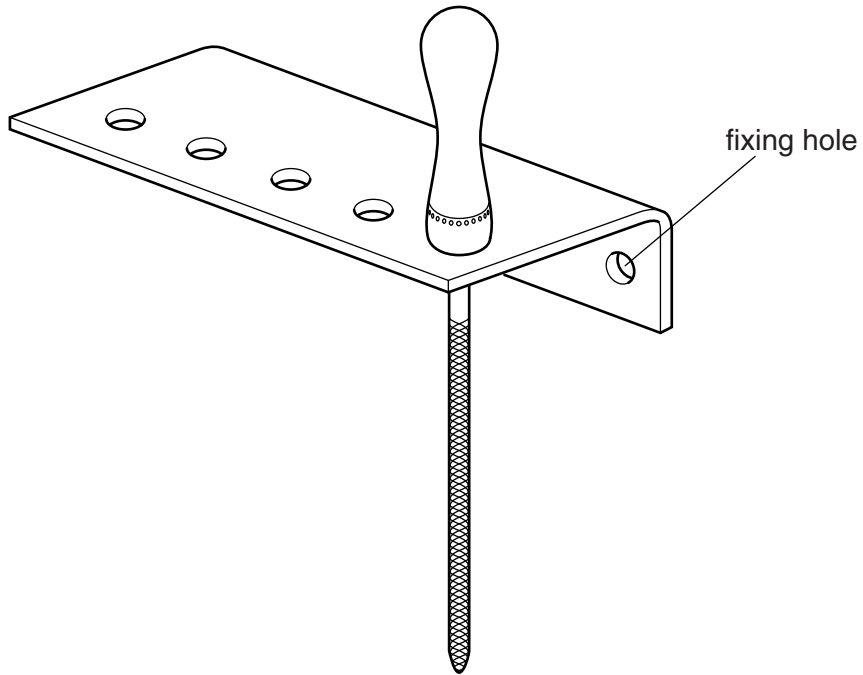

Fig. 5
- 19 Fig. 5 shows a rack for holding round files. The rack is made from acrylic sheet 3mm thick.